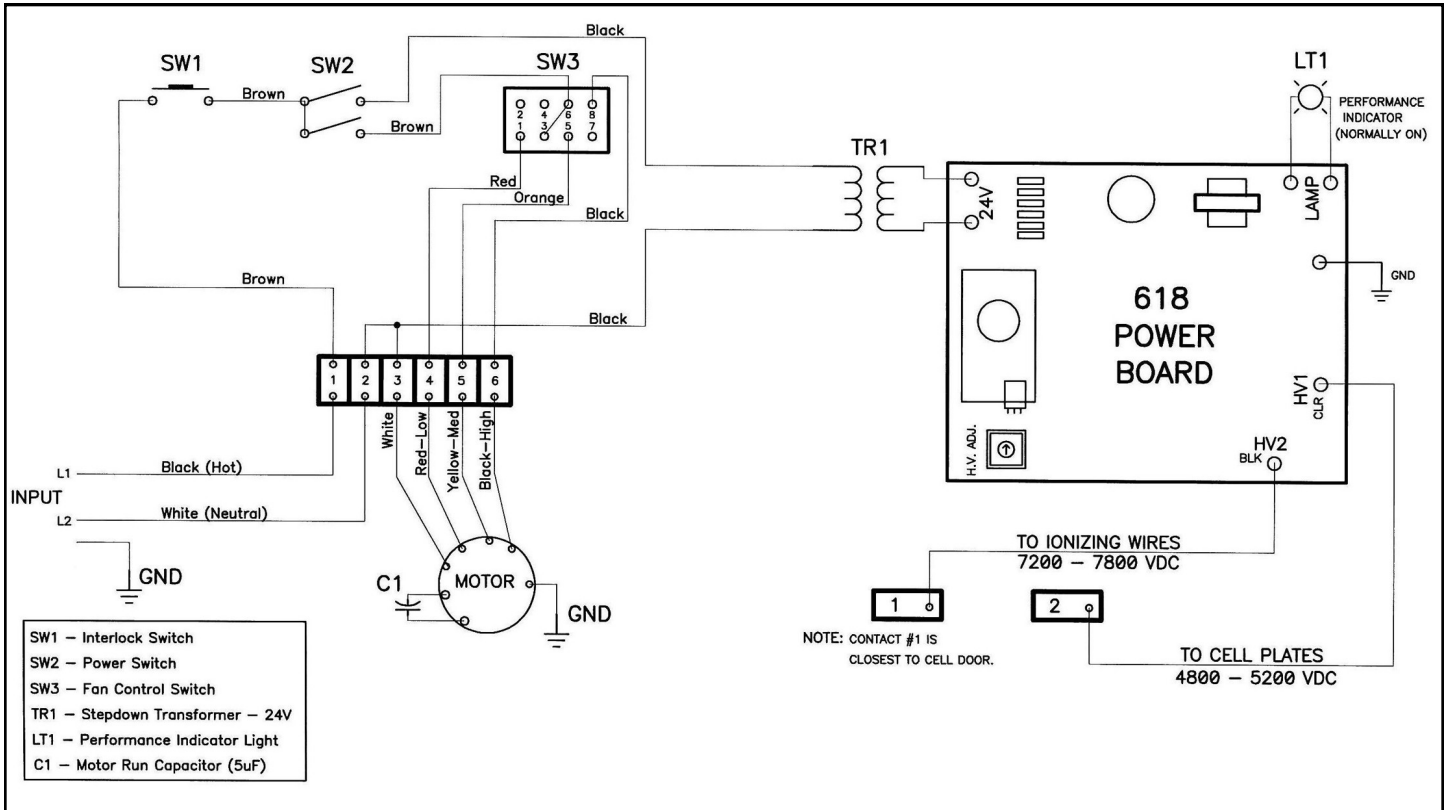

Fig. 5 — Electrical Schematic - 120 Volt
7. Reconnect wiring to neon lamp, HV1, HV2, and 24 V terminals on the new power board. See Fig. 5.
2. Disconnect the leads of the 24 V transformer from the power board. See Fig. 5. Do not short the leads.
2. Disconnect the secondary leads from the transformer to the 24 V terminals on the power board. See Fig. 5.
7. Adjust the HV Adj. potentiometer until the voltage reading matches the voltage in Fig. 5. Adjusting the potentiometer **clockwise decreases** the voltage and turning **counter-clockwise increases** the voltage.
High voltage wires are on wrong copper contact.	Reposition high voltage wires on proper contact (see Fig. 5).